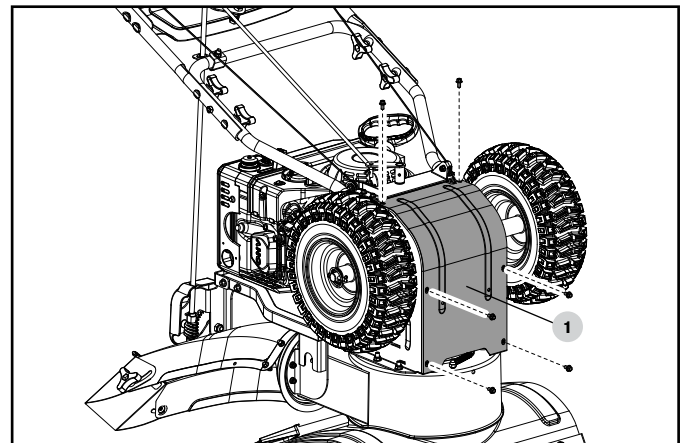

Figure 48A
2. Remove the base frame cover (1) from the underside of the snowblower by removing the six M6 × 16 screws which secure it (Fig. 48A).